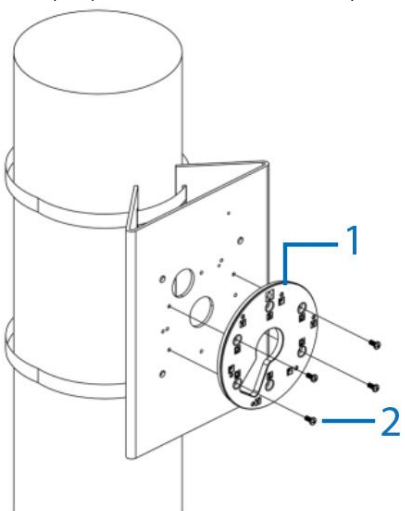

Figure 6
- C. Hold the adaptor plate (1) (Figure 6) up to the pole mount and align the four 'D' holes on the adaptor plate with the four holes on the pole mount.
- D. Insert the four M4 x 0.7P 10L screws (2) (Figure 6) into the four holes and securely attach the adaptor plate to the pole mount.